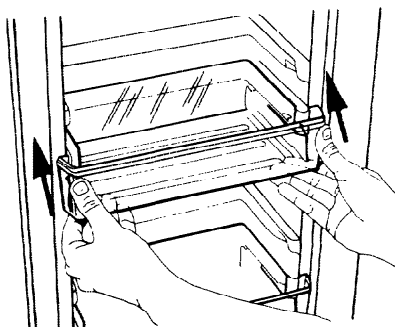

FIGURE 65
3. To install the Chiller Bucket, slide bucket into grooved area until the tabs lock into place. See Figure 65.